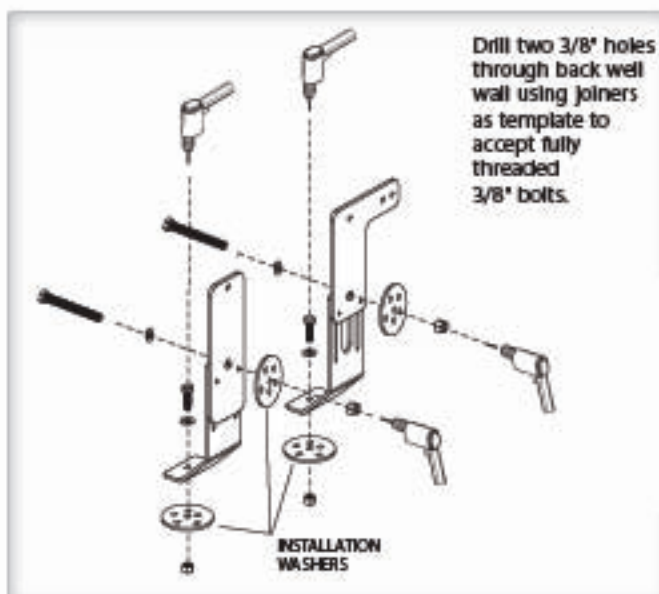

Figure 20-3
- Drill two 3/8" holes in floor of well using joiners as template. Fasten 3/8" hardware (x2). [Figure 20-3]